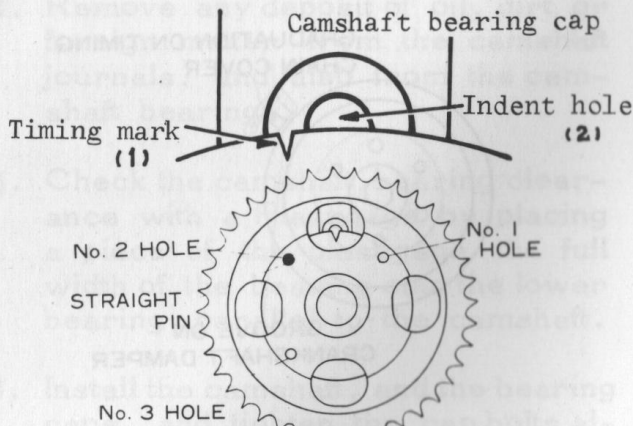

Fig.2-78 Adjustment X5808
4. If the timing mark (1) is off the mark counterclockwise, adjust the chain as shown figure 2-78 above. Remove the camshaft gear attaching bolt, which is left-hand threaded, from the camshaft. Then rotate the camshaft gear on the camshaft clockwise until the straight pin on the camshaft flange fits in the No. 2 straight pin hole in the camshaft gear.